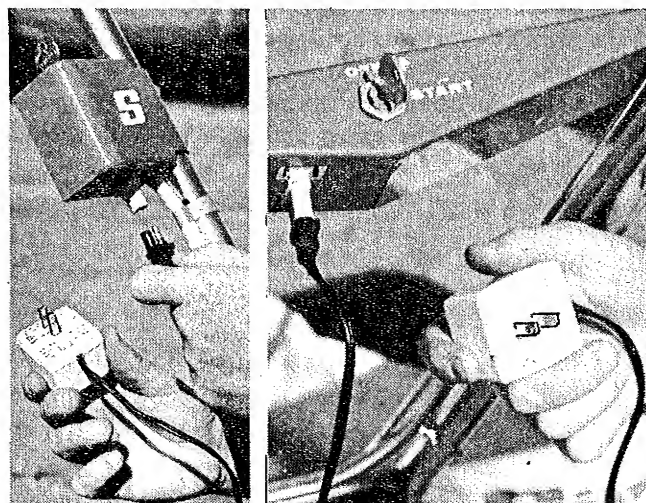

FIGURE 6
**3. Battery:** On electric start models plug the charging unit into a 110 volt, 60 cycle A.C. outlet. Leave the charger plugged in for at least 24 hours before starting the mower. The charger may be left on longer without damage to the battery. (See Figure 6).